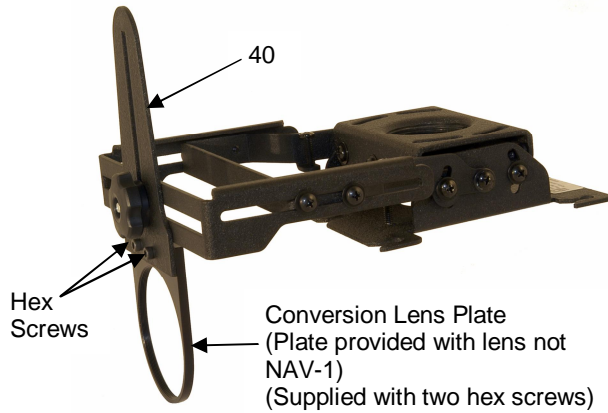

Figure 7. Attach Conversion Lens to Adjustable Plate
1. Attach conversion lens plate behind the front plate (40) on the NAV-1. Use the two screws and hex wrench that are provided with the conversion lens. See Figure 7.